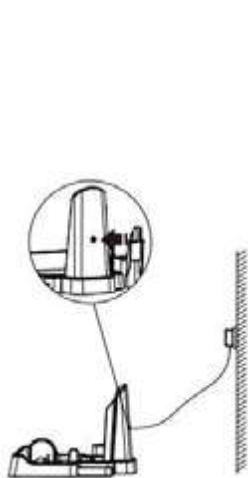

Figure 4-20
1. Plug the adapter into the socket on the charging base and into the wall outlet as shown in Figure 4-20.